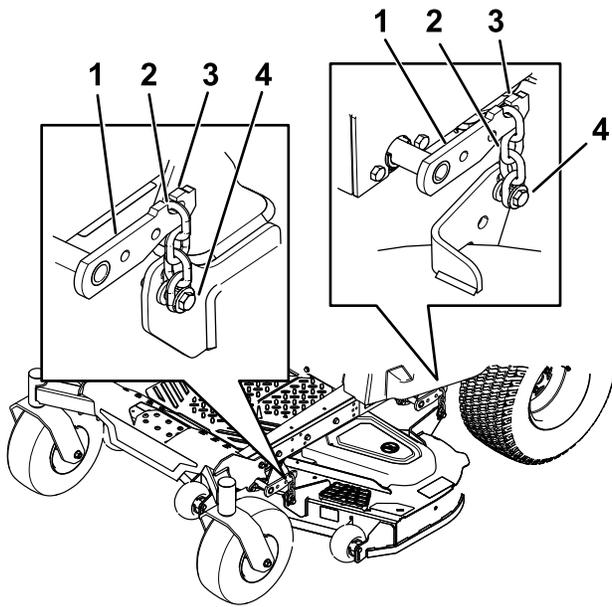

Figure 68
7. Remove the chains from the hooks on the deck-lift arms (Figure 68).
6. Lift the rear of the mower deck and attach the chains to the rear lift arms (Figure 68).
7. Attach the front chains to the front lift arms (Figure 68).